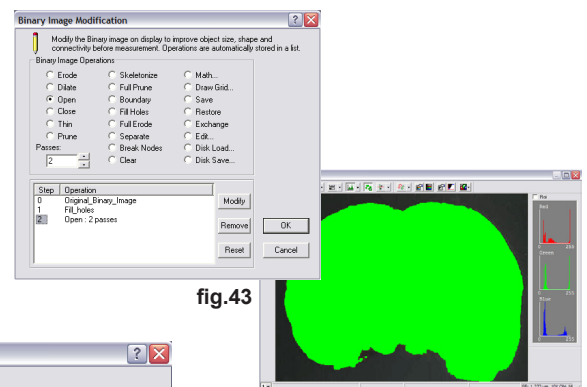

fig.43
5. Click on the **Modify** icon. Apply Fill Holes to fill any hole in the green overlay. Apply Open to remove any small artifacts. > **OK** (fig.43).